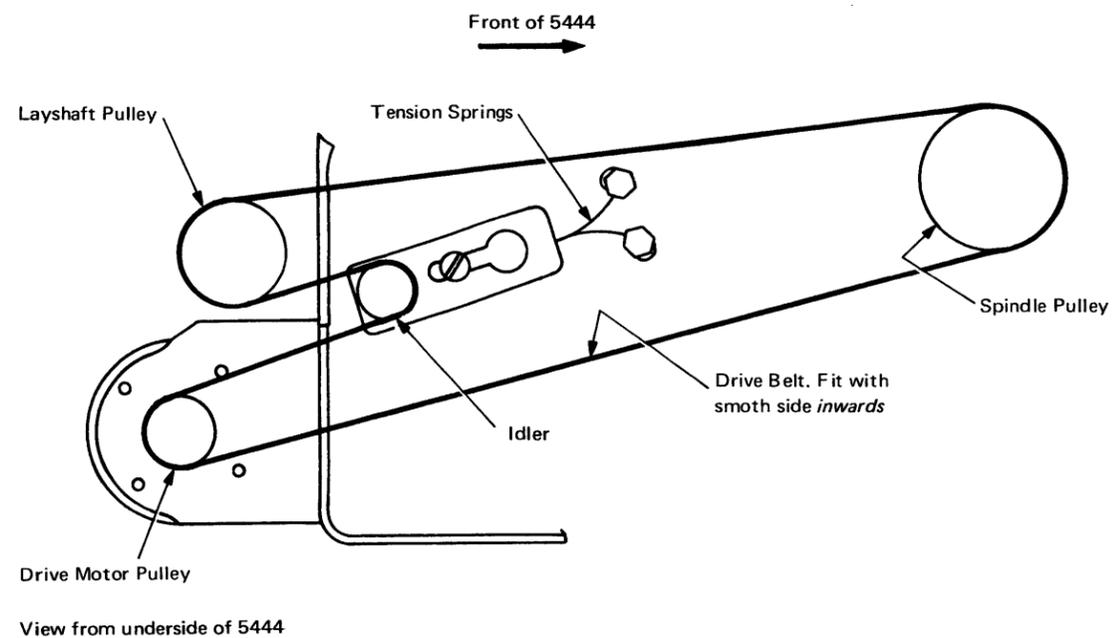

Figure 2-21. Route of Drive Belt [07546]
1. The belt is self-adjusting. To remove, first release tension from idler (Figure 2-21) by pulling against tension springs, then lift off belt.
*Note:* If the 5444 is mounted with a limited accessibility to the underside, tape the drive belt to the spindle pulley (see Figure 2-21) with adhesive tape. This action will allow the CE to move to the other end of the machine for pulling the belt through to the other pulleys. Remove the tape on completion.